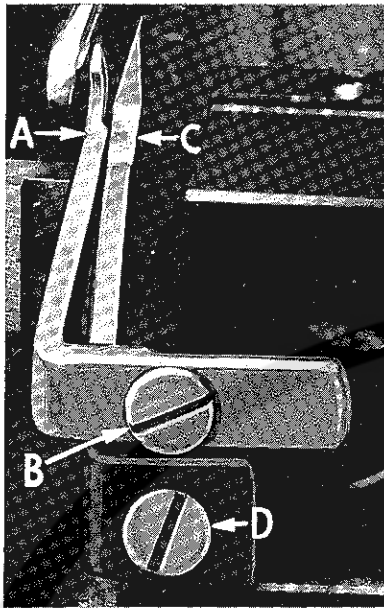

Fig. 5
Assemble front needle guard (C, Fig. 5). When lower looper is springing needle off back guard, set front needle guard as close as possible to needle without touching. Screw (D) is used to adjust and set front needle guard. After this setting make sure there is no interference between needle guards and differential feed dogs.
Set rear needle guard (A, Fig. 5) as high as possible, without interfering with either lower looper or movement of lower knife holder, but still in position to deflect needle forward -.002 - .004 inch. Screw (B) is used to set rear needle guard. Make sure there is no interference between rear needle guard and lower looper.